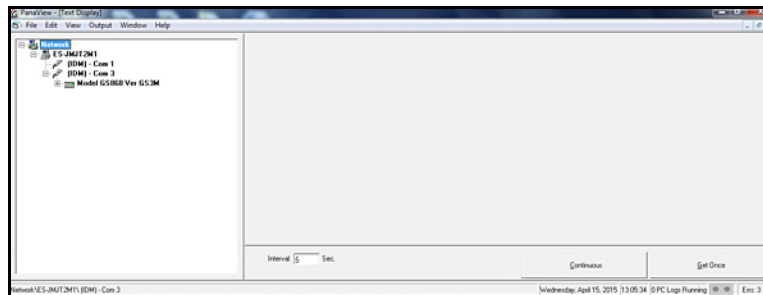

Figure 62: The Text Display Window
- Open the “Output” menu and click “Text Display” option (this menu is discussed in detail in Chapter 6. “Data Handling”) to open a window similar to Figure 62 on page 52. By default, this window is stacked on top of the previously visible “Meter Browser” window.
3. Using the “Window” menu, as described in “Multiple PanaView Windows” on page 49, arrange the open windows in the desired format. For this discussion, Figure 62 below shows the “Text Display” window in its maximized (full-screen) size.
Note: Figure 62 above has been compressed both vertically and horizontally for improved clarity.
5. Before actual data values can be displayed in the text pane, activate one of the following data collection modes (see Figure 62 on page 52):